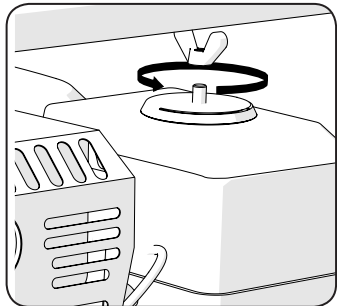

Fig 21
- Unscrew the wing nut from the Air Filter housing and remove it and its large plate washer and rubber sealing gasket. (Fig. 21)